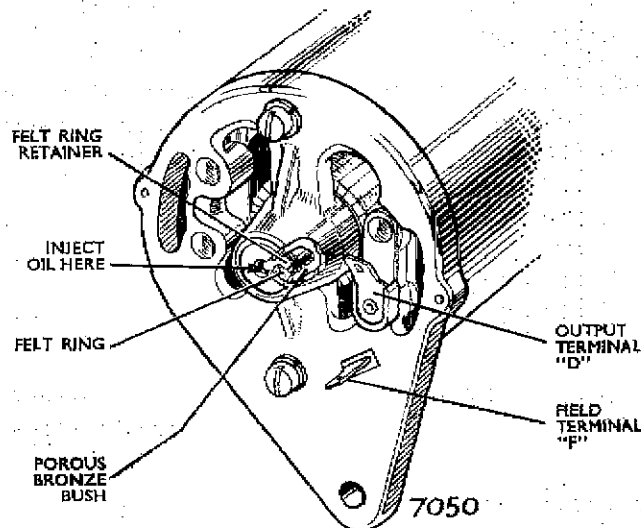

Fig. 2. Generator lubrication and terminal connections.
Every 5,000 miles or every six months, whichever occurs first, inject a few drops of Shell X-100, 30 engine oil into the hole marked "OIL" at the end of the commutator bearing housing (See Fig. 2). A felt ring located in the housing will absorb the oil and act as a reservoir.
2. Check the Lucas connections on the commutator-end bracket. The larger connector carries the main generator output, the smaller connector the field current (See Fig. 2).